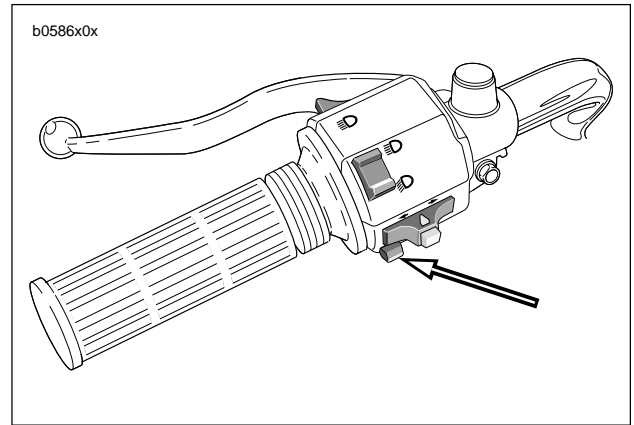

Figure 7-76. Horn Switch
3. See Figure 7-76. Depress horn switch and observe voltmeter reading.